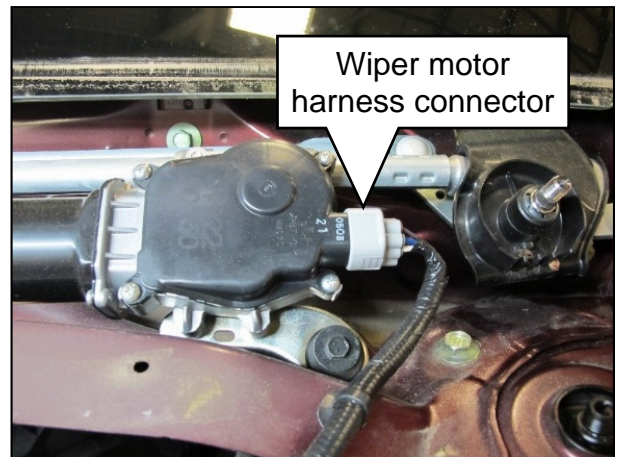

Figure 12
7. Disconnect the wiper motor harness connector (Figure 12).